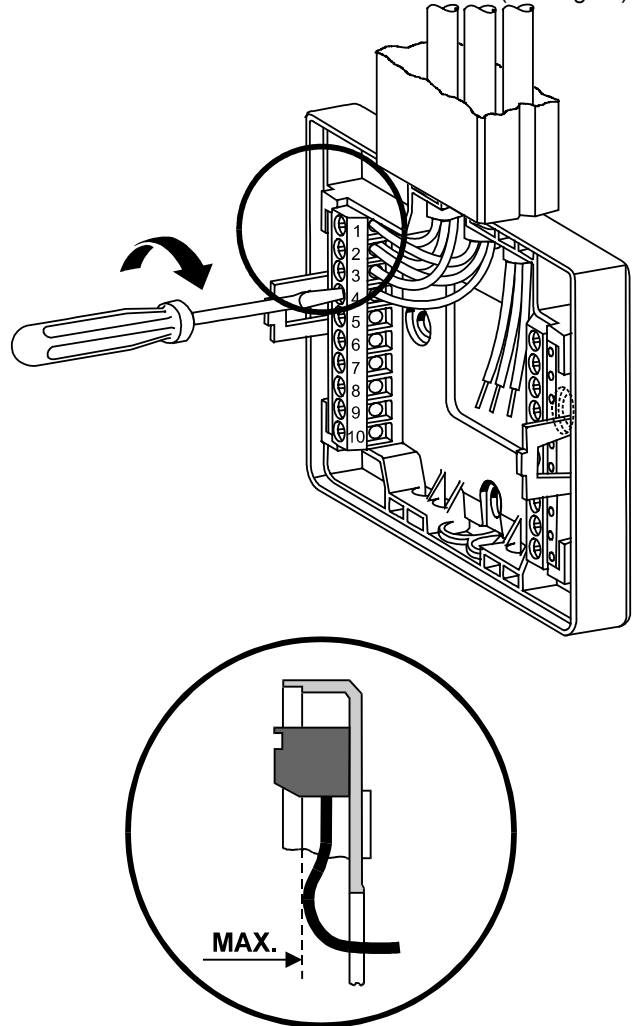

Fig. 6. Terminal block connections.
2. Insert the wire in the required terminal location and tighten the screw to complete the termination. Ensure that the wire entering the terminal block does not extend above the numbered face of the terminal block to avoid contact between the wires and the printed circuit board on the underside of the front cover (see Fig. 6.)